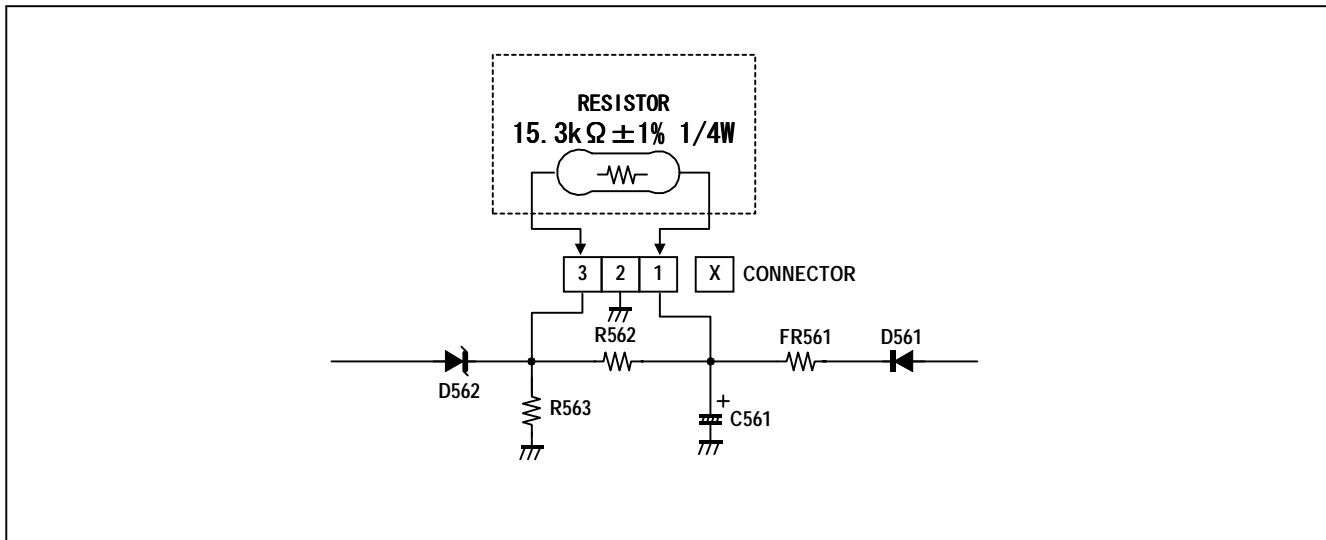

Fig. 2
- (1) Turn the POWER SW ON.
- (2) As shown in Fig.2, set the resistor (between connector 1 & 3).
- (3) Make sure that the screen picture disappears.
- (4) Temporarily unplug the power cord.
- (5) Remove the resistor (between connector 1 & 3).
- (6) Again plug the power cord, make sure that the normal picture is displayed on the screen.